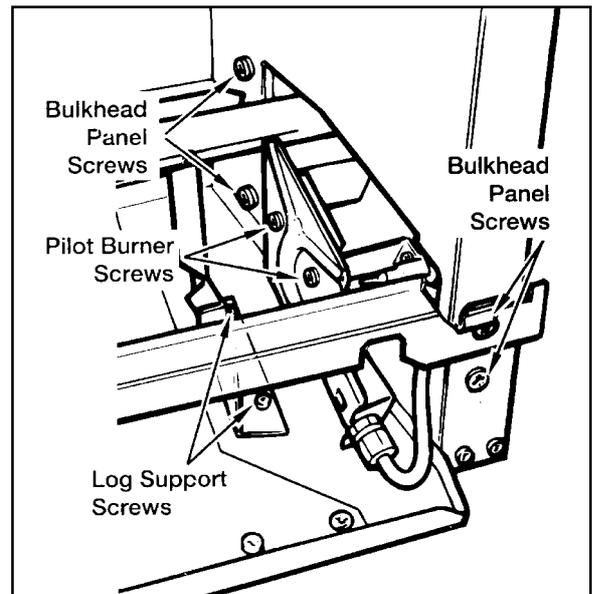

Fig. 19 Firebox Internal Fixings
- 16.7.4 To gain clear access to the pilot burner screw, detach the right hand front log support by removing two screws - see figure 19.
- 16.7.5 Remove the pilot and cross lighting burner by unscrewing the two screws fixing it to the bracket at the right side of the firebox - see figure 19.
**16.13.5** Remove the two screws securing the bulkhead panel to the firebox right front flange and front cross member see figure 19.
**16.13.9** Remove the three screws securing the bulkhead panel inside the firebox right side - see figure 19.